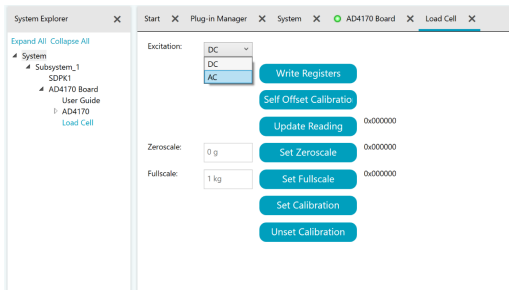

Figure 12. Load Cell Tab
6. Click **Update Reading** to read a sample from the AD4170-4, the ADC sample is displayed to the right as shown in Figure 12.